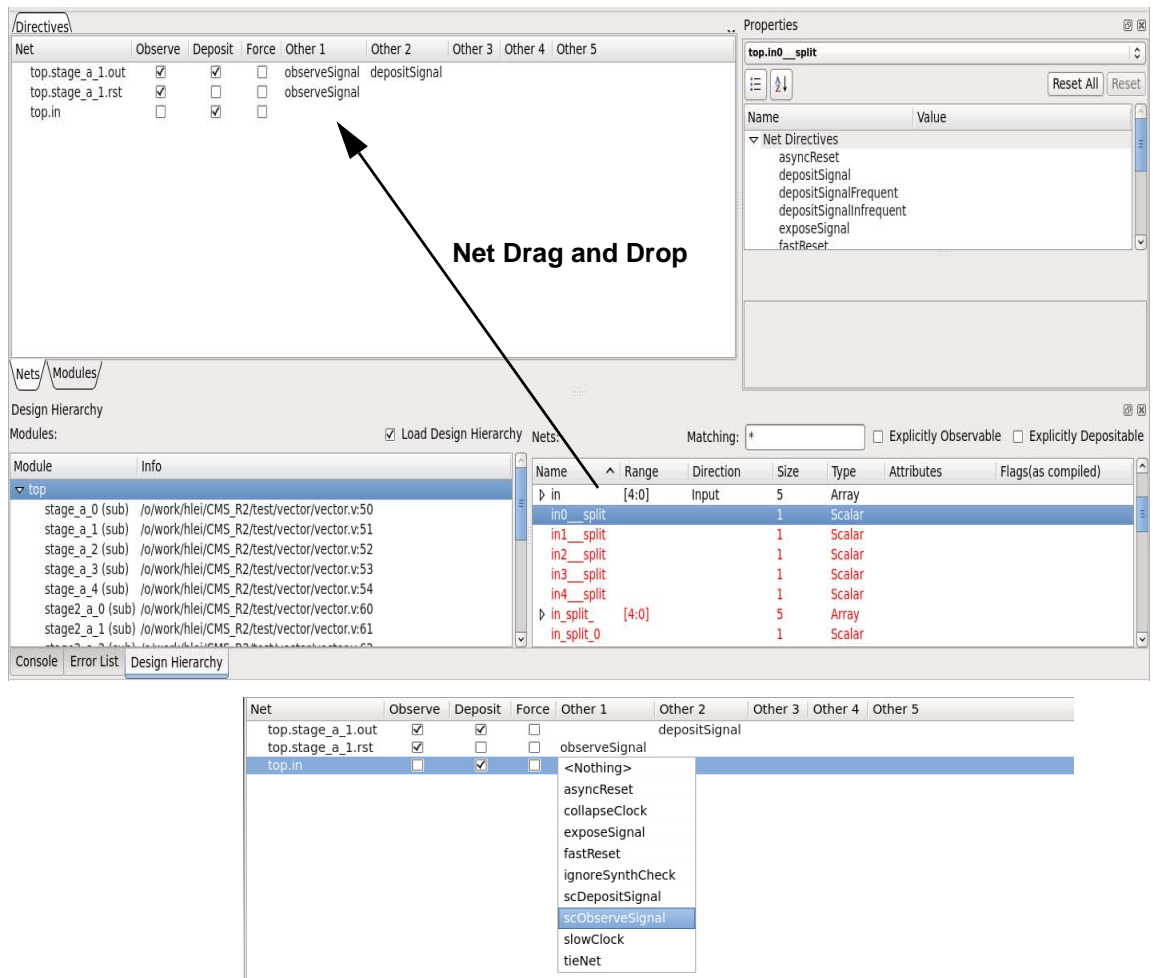

Figure 3-20 Add Net to Net Directives Window and Set Directives
1. Drag and drop nets to the Nets tab in the *Directives* pane and apply directives to them (see Figure 3-20).